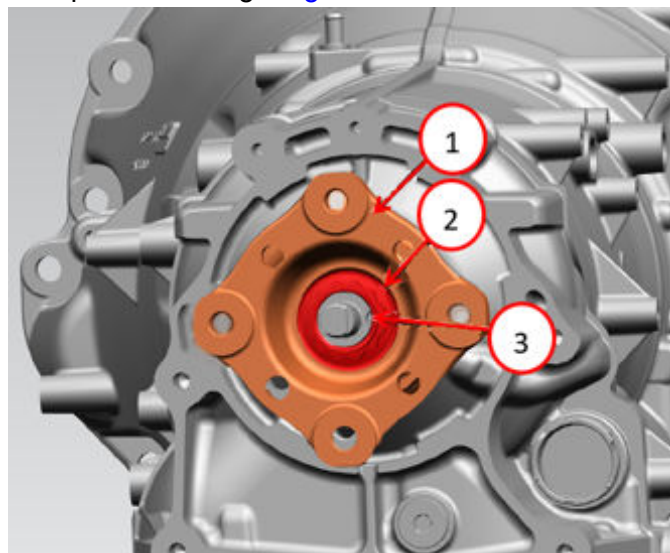

Fig. 55
82. For 2WD vehicles, install the output shaft flange Fig. 55.